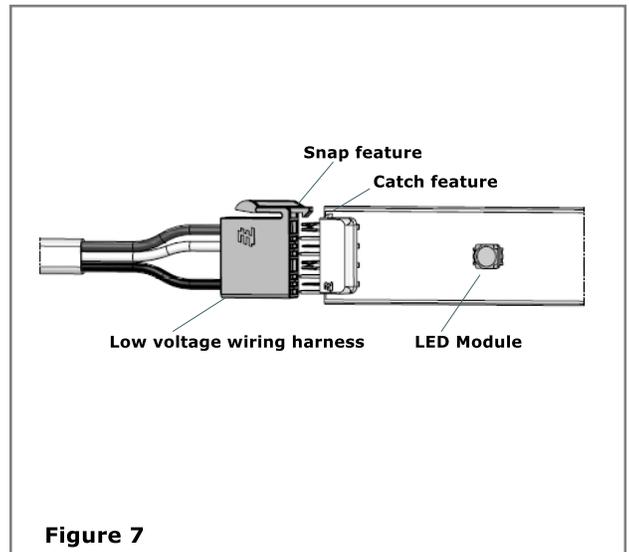

Figure 7
- If not already connected, locate the low voltage wiring harness and plug into the first LED module making sure that it is aligned with the connector on the module. The snap feature on the wiring harness connector should lock on the connector catch on the module. **See Figure 7.**